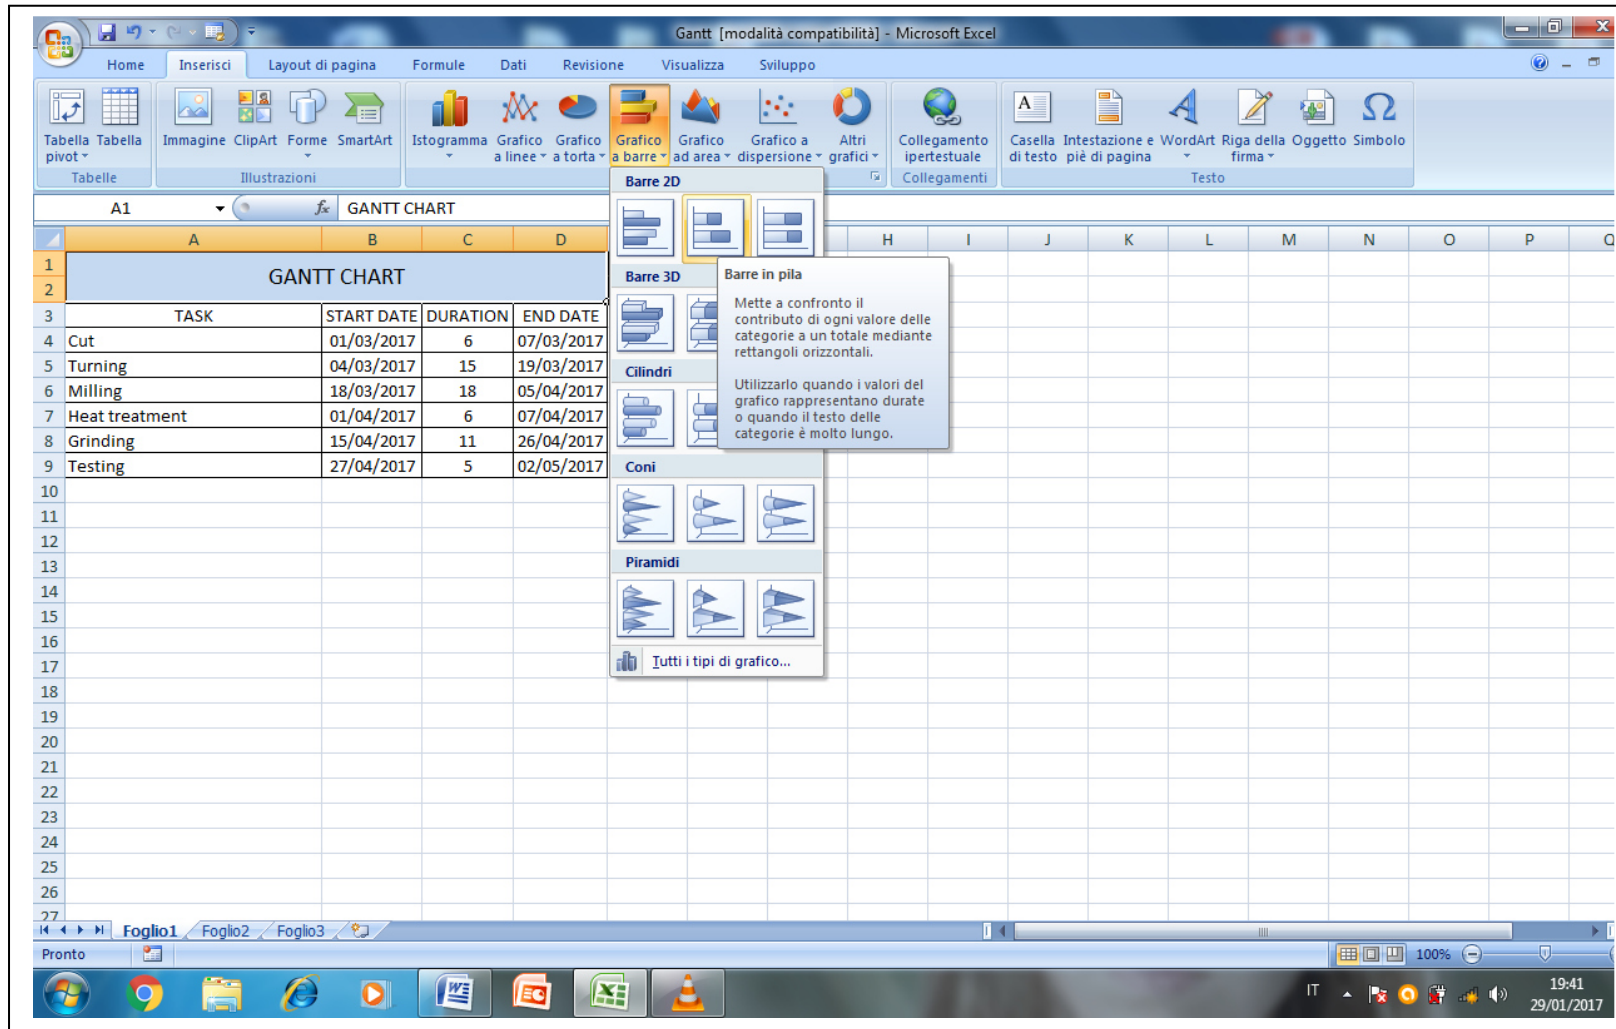

Fig.3- Choose stack bars
- 2) While the cell “GANTT CHART” is selected, click on “Insert” in the top bar; click on the “bar-grafico” icon and choose “stack bars”. Have a look at the figure 3